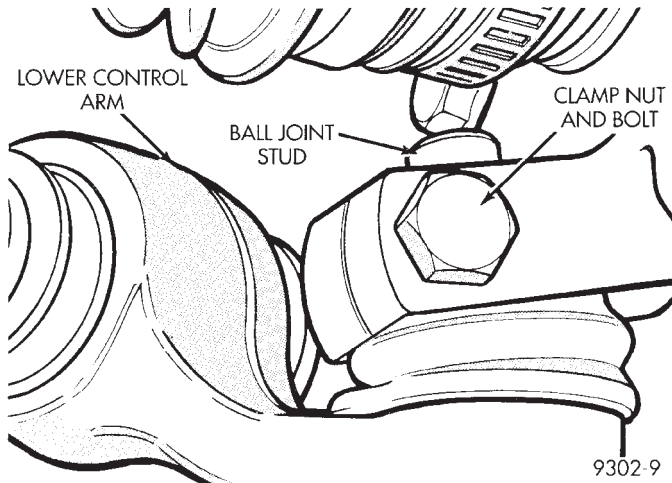

Fig. 1 Control Arm To Steering Knuckle Attachment
(1) Raise vehicle on jackstands or centered on a frame contact type hoist. See Hoisting in the Lubrication and Maintenance section of this manual, for the required lifting procedure to be used for this vehicle.
(2) Remove the wheel and tire assembly from the vehicle.
(3) Remove the ball joint stud to steering knuckle clamp nut and bolt (Fig. 1).